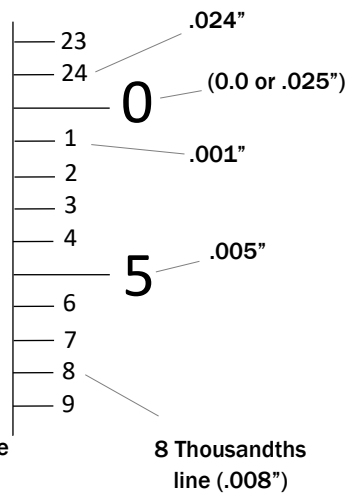

Fig.12C, Thimble
- *Fig.12C*, The Thimble is divided into 25 equal parts, each line represents 1 thousandth (.001") and it is numbered consecutively.